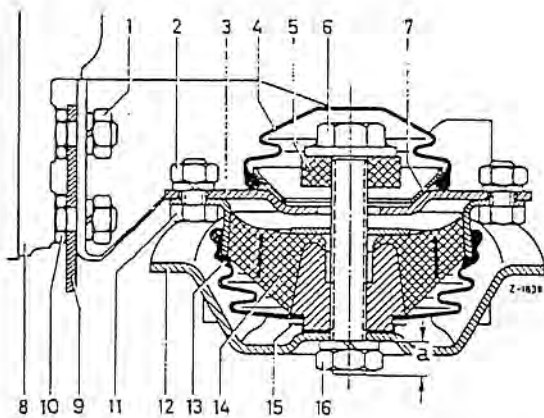

Fig. 24-1/2
6. Remove the sheet-metal cover (15) and the bellows (13) from the rubber mounting
(14). Then remove the bellows (4) and unscrew the hexagon lock nut (6) (Figs. 24-1/2 or 24-1/3, /4). On Models 220 SEb and 300 SE Convertible and Model 230 SL unscrew first the hexagon nut (16) or (20).
8. Attach the rubber mounting (14) to the engine support (3), and put on the bellows (13) and the sheet-metal cover (15) (Figs. 24-1/2 and 24-1/3, /4).
On Models 220 SEb and 300 SE Convertible and Model 230 SL adjust the limit stop. To do this screw in the hexagon screw (6) until dimension "a" is reached (Fig. 24-1/3 or /4 and Job No. 22/24-0). Then lock the screw (6) with the lock nut (16 or 20). Put on the bellows (4) and push on the spacer ring (17).